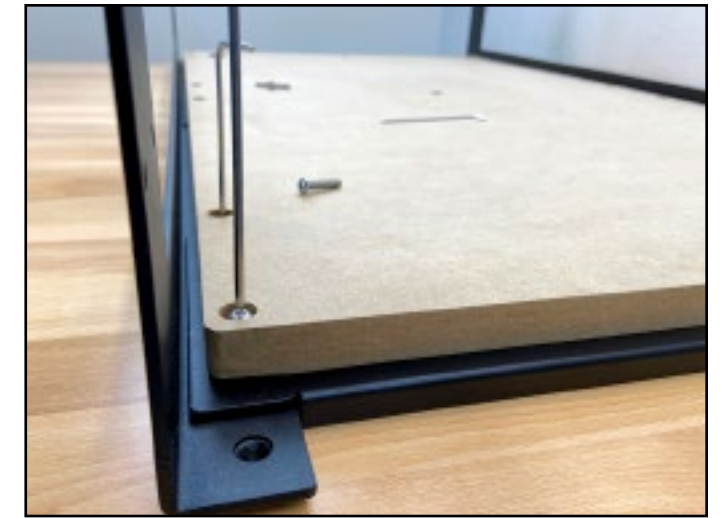

Figure 2-8
2. Use the 3mm hex key and six (6) M5x25mm button head cap screws to secure the front endplate to the baseframe. See **Figure 2-8**.